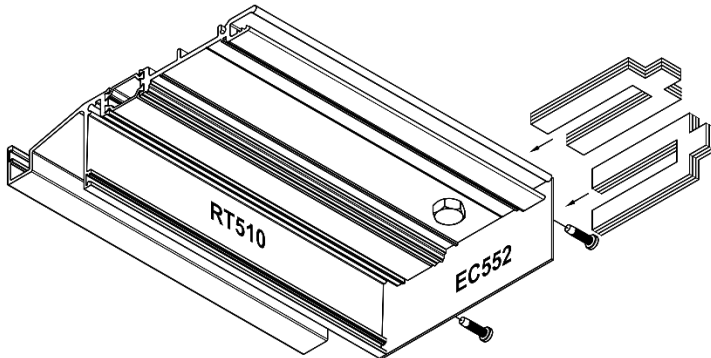

Figure 65: Head Receptor Installation
- 18.1 Attach the **EC556** End Dam with (2) **MF232** fasteners. Center the assembled Head Receptor into the opening, allowing shim space at jambs. Shim to level with 1/4" of shim at highpoint, adding shims at each fastener, reference *Figure 65*.